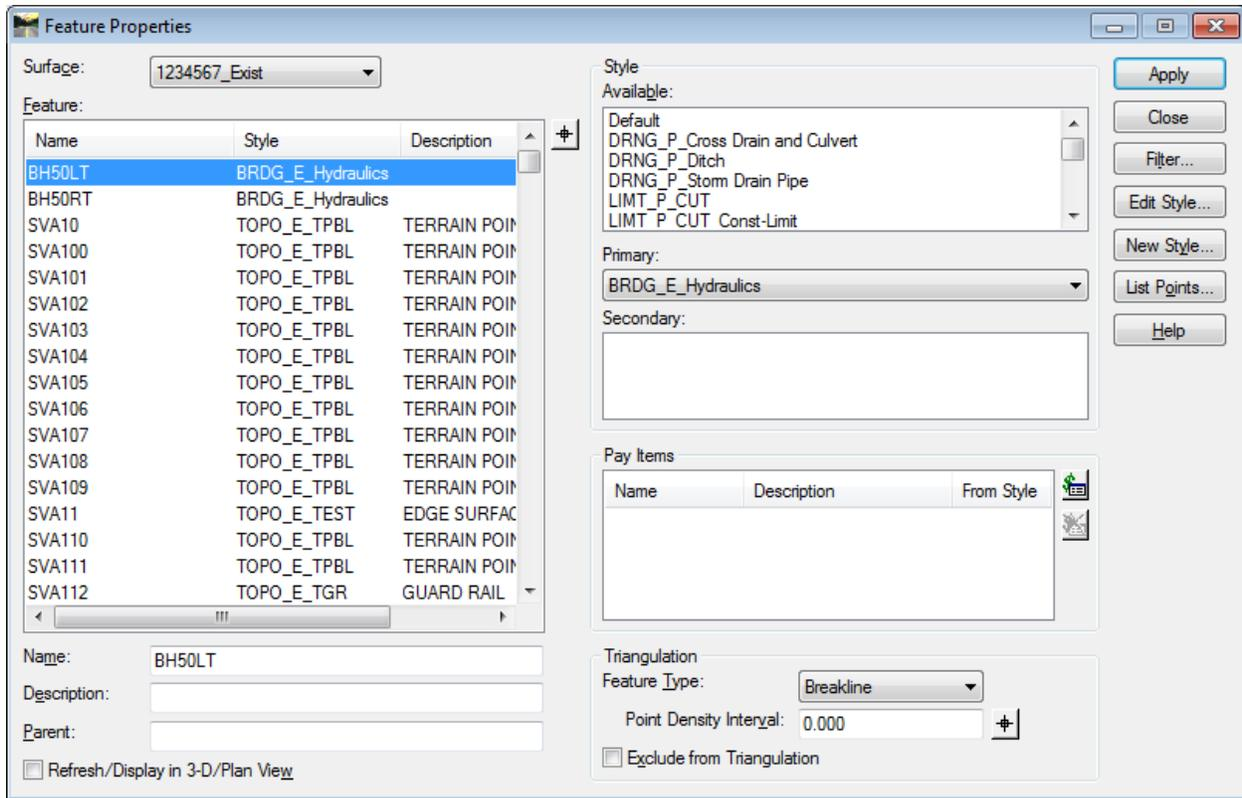

Figure L3-15 Feature Properties
- Verify the features **BH50RT** and **BH50LT** are listed in the **Feature Properties** dialog as shown in *Figure L3-15*. Click the **Name** column heading as necessary to find the Features.